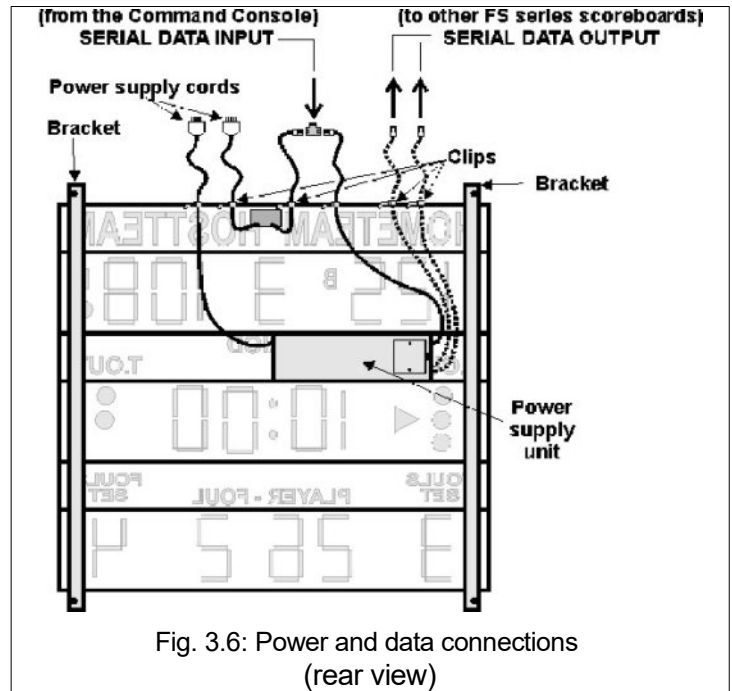

Fig. 3.6: Power and data connections (rear view)
1. Insert every power cord into the proper socket and fasten the other end to the top part of the scoreboard with the clip provided for this purpose (see Fig. 3.6); this is to ensure that the power supply plug is positioned over the board once the board is installed on the wall.
2. For the main display scoreboards, in addition to the long serial cable used for connection to the Command Console, three thin cables of circa 1m are also provided. Insert one of these three cables into the "SERIAL DATA INPUT" port and fasten the other end to the top of the scoreboard by using the provided clip (see Fig. 3.6). This will make connecting to the Console's serial cable easier once the board has been installed on the wall.
4. For the Team Names module, insert the serial cable (approx. 1 m) into the "SERIAL DATA INPUT" port and then attach the other end on top of the scoreboard using the supplied clip (see Fig. 3.6).
3. Using the adapter provided, connect the serial data cable of the Console to the cable you previously inserted in the "SERIAL_DATA INPUT" port of the power supply unit and of the Team Names module, positioned above the scoreboard (see chapter 3.3 and Fig. 3.6).